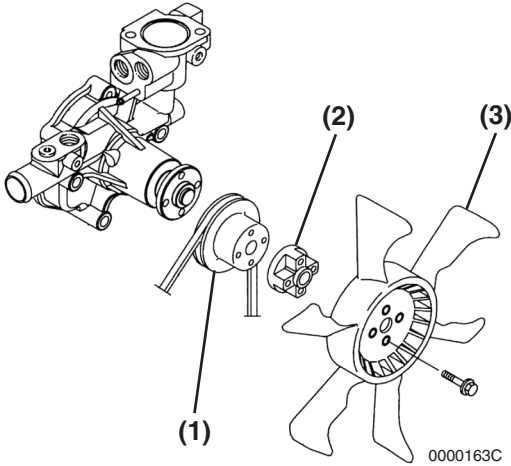

Figure 9-15
Remove the engine cooling fan guard (if equipped), engine cooling fan (**Figure 9-15, (3)**), spacer (**Figure 9-15, (2)**), engine coolant pump V-pulley (**Figure 9-15, (1)**) and V-belt.